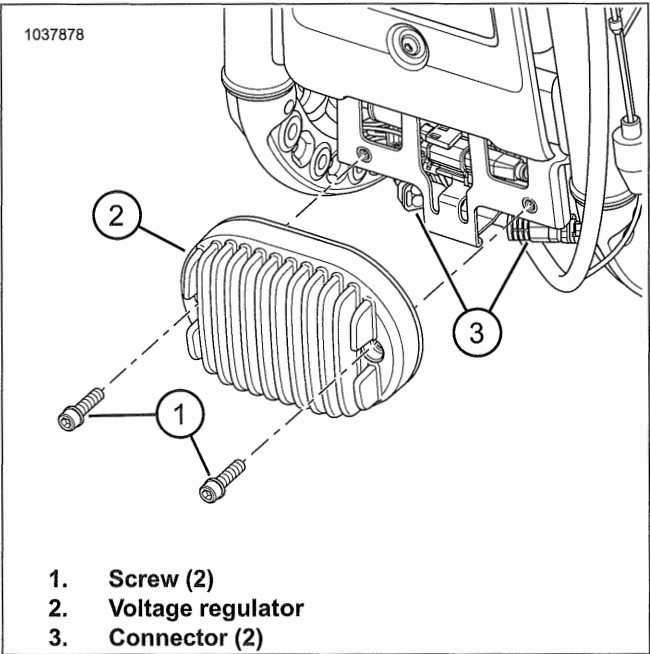

Figure 7-10. Voltage Regulator
- 1. See Figure 7-10 Remove screws (1).
- 2. Remove voltage regulator (2).
- 3. Disconnect voltage regulator connectors (3).
- 1. See Figure 7-10. Connect voltage regulator connectors (3).
- 2. Align voltage regulator (2) to mounting bracket.
- 3. Install screws (1). Tighten.